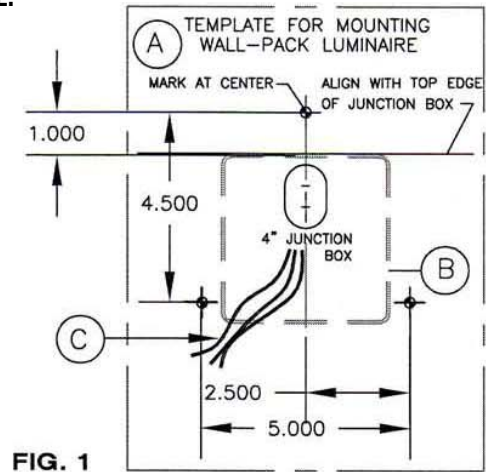

FIG. 1
- Using template (A) lay over junction box (B) on the wall. Mark at (3) hole. (See Fig.1)
- Pull the supply wires (C) from junction box (B) .